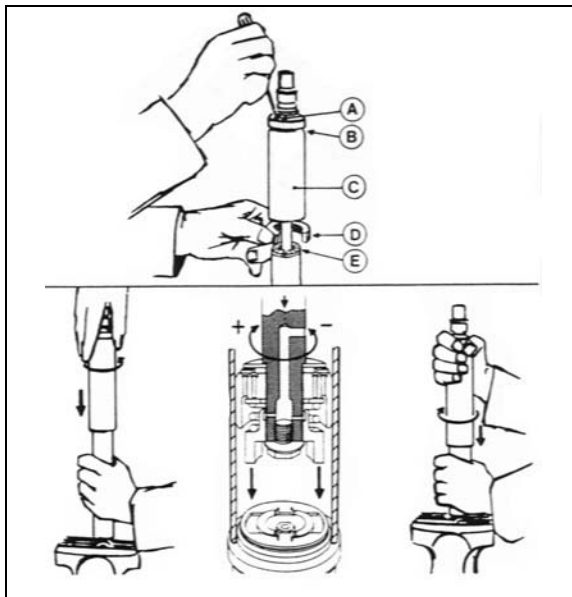

FIGURE 20: DAMPER
To adjust opening and closing cycle speed on damper (Fig. 20):
2. Fully close the damper while turning the dust cap or piston rod slowly CCW until it is felt that the cams of the adjusting nut engage in the recesses of the foot valve assembly (Fig. 20).
In figure 20, if there is an indentation (B) in the dust cap (C) and the cover shows two holes (A), the damper is fitted with a bump rubber (D). If so, fully extend the damper and insert a round bar or screwdriver through the holes. Push the bump rubber down and remove. Remove the split plastic collar (E) (if fitted) from the piston rod.
Where a bump rubber was installed, refit same inside the dust cap and by fully closing the damper, the rubber will seat again at top of the dust cap. Refit the split plastic collar E (Fig. 20).